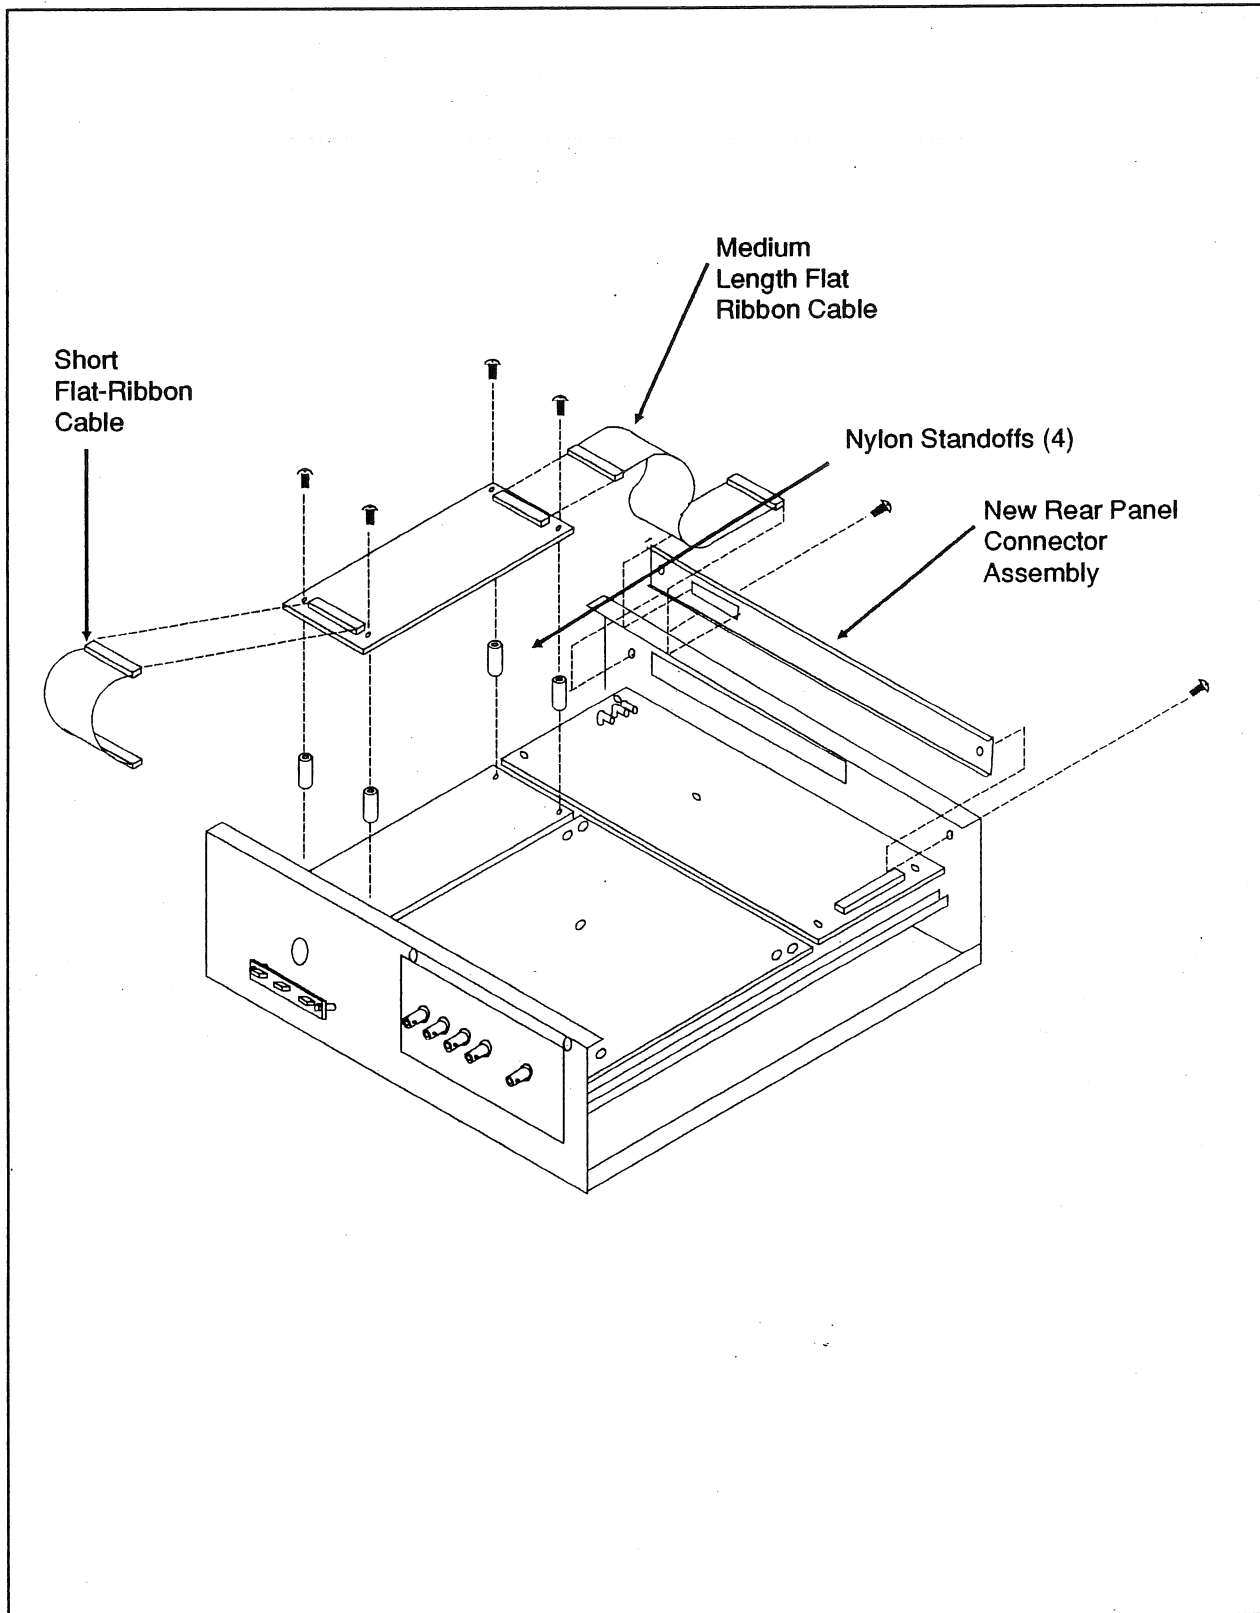

Figure 5-7. Digital I/O Board Assembly
- 9** Install the Digital I/O Board. See Figure 5-7.